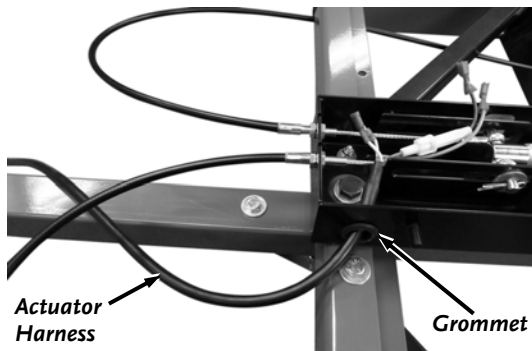

Figure 28
46. Route the Actuator Harness over the Tow Bar to the left side of the machine (make sure the Harness stays under the Height Adjust Cable (**Figure 28**)).